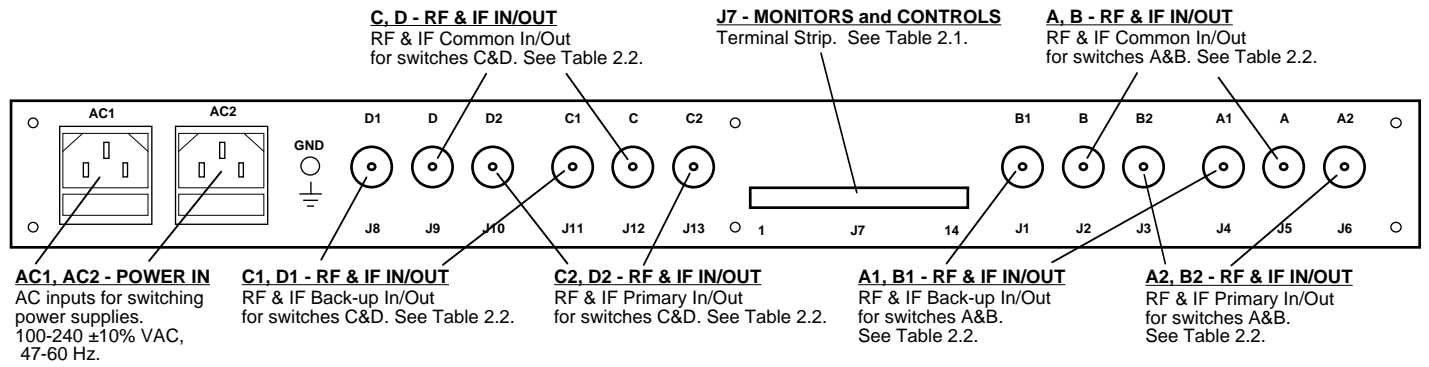

FIGURE 2.2 1582-25L2 RF Switch Rear Panel Inputs/Outputs
2.2 Input and Output Signals - Figure 2.2 shows the input and output connectors on the rear panel.
4. Connect to signals on the MONITORS AND CONTROLS connector, J7, as desired (see Figure 2.2, Table 2.1).